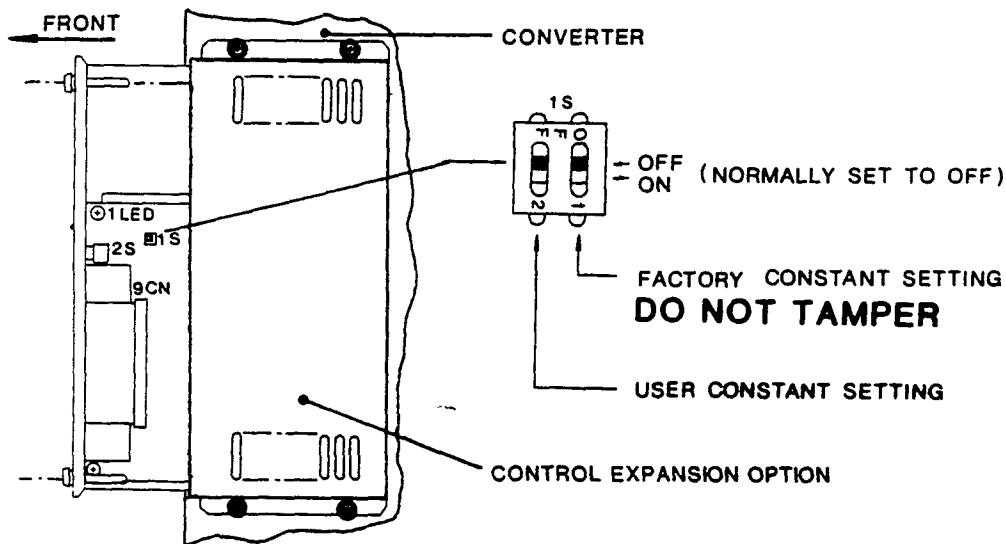

Figure 5. Initializing
a. With AC input power off, loosen both front panel mounting screws on the control expansion option. Pull the front panel/bracket/PCB assembly forward until switch 1S on the PCB is accessible (see Figure 5).